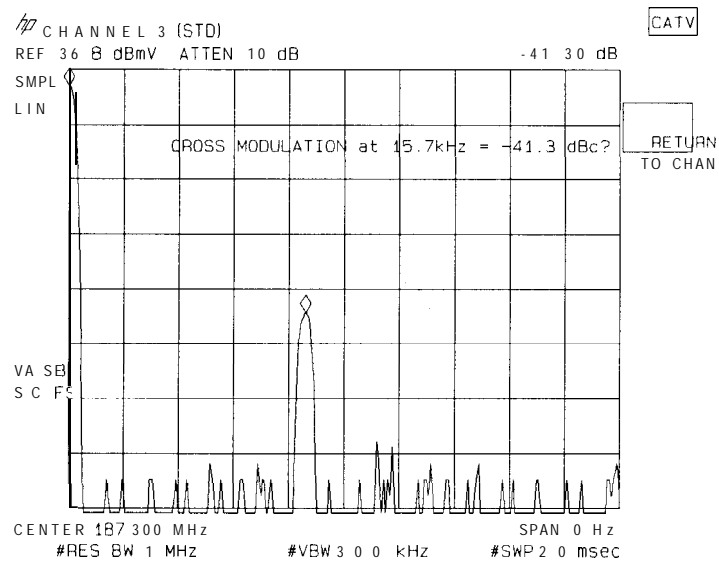

Figure 2-9.
1. Select a channel, turn off modulation, then press More 1 of 3 XMOD MEAS . The results appear as shown in Figure 2-9.